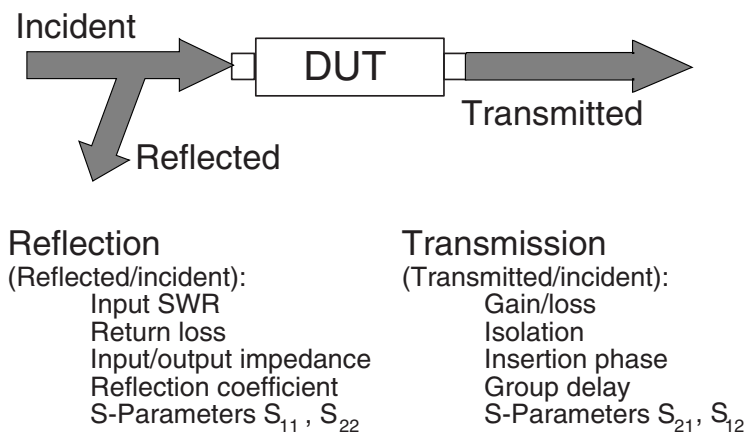

Figure 1. Device characterization
Vector network analyzer (VNA) measurement systems are used to fully characterize the linear behavior of two port devices or networks. Device characteristics include the magnitude and phase data of the transmission or reflection parameters that are required to determine complex impedance, both resistive and reactive components, shown in Figure 1. A network's behavior is linear when (1) a linear change in the input results in a linear change in the output, and (2) the output, resulting from multiple input signals, is the same as the sum of the outputs resulting from independent input signals. Some examples of linear networks are filters, amplifiers, cables and isolators.